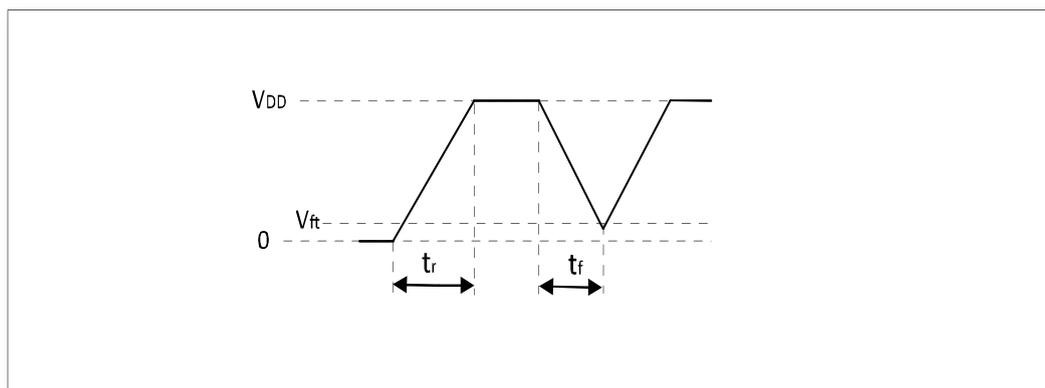

Figure 5-5 Power-on and power-down waveforms
1. The V_{DD} waveforms of chip power-on and power-down must strictly follow the t_r and t_f phased in the following waveform diagram Figure 5-5, and no power-down is allowed during power-on process.